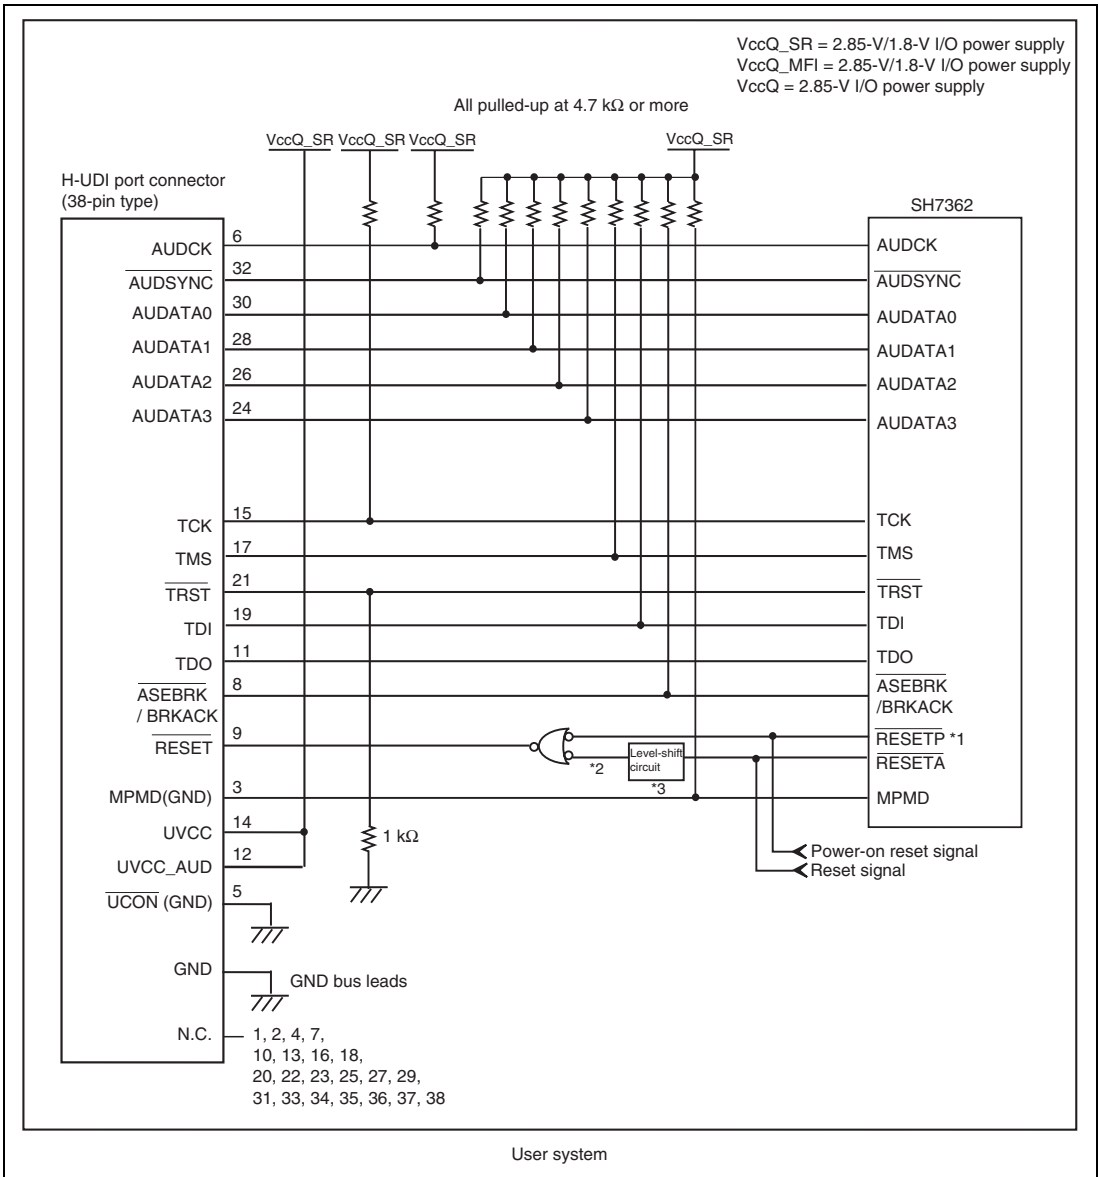

Figure 1.7 Recommended Circuit for Connection between the H-UDI Port Connector and MPU when the Emulator is in Use (38-Pin Type)
6. Connect /RESETP and /RESETA to the user system if required, as shown in figure 1.7.
Figure 1.7 shows a recommended circuit for connection between the H-UDI and AUD port connectors (38 pins) and the MPU when the emulator is in use.
- (1) When the emulator is used: $MPMD = 0$
- (2) When the emulator is not used: $MPMD = 1$Figure 1.7 shows an example of circuits that allow the MPMD pin to be GND (0) whenever the emulator is connected by using the user system interface cable. When the MPMD pin is changed by switches, etc., ground pin 3. Do not connect this pin to the MPMD pin.
7. The resistance value shown in figure 1.7 is for reference.
When the circuit is connected as shown in figure 1.7, the switches of the emulator are set as SW2 = 1 and SW3 = 1. For details, refer to section 3.8, Setting the DIP Switches, in the SuperH™ Family E10A-USB Emulator User's Manual.